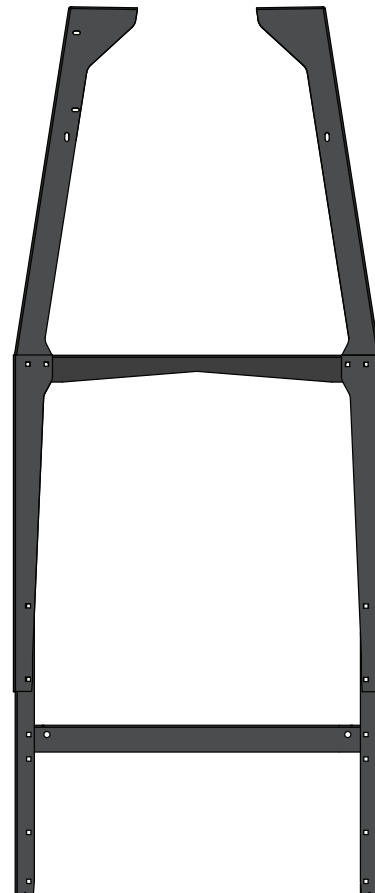

FIG. 1
Assemble the Stand (R) and Stand Extensions (S) [FIG 1]. Refer to the instruction sheets included: